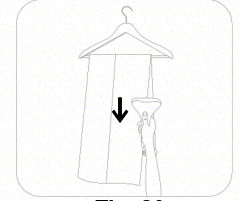

Fig. 20
- Release handle, made it clamp cloth, ironing from upside to downside. Fig.20.